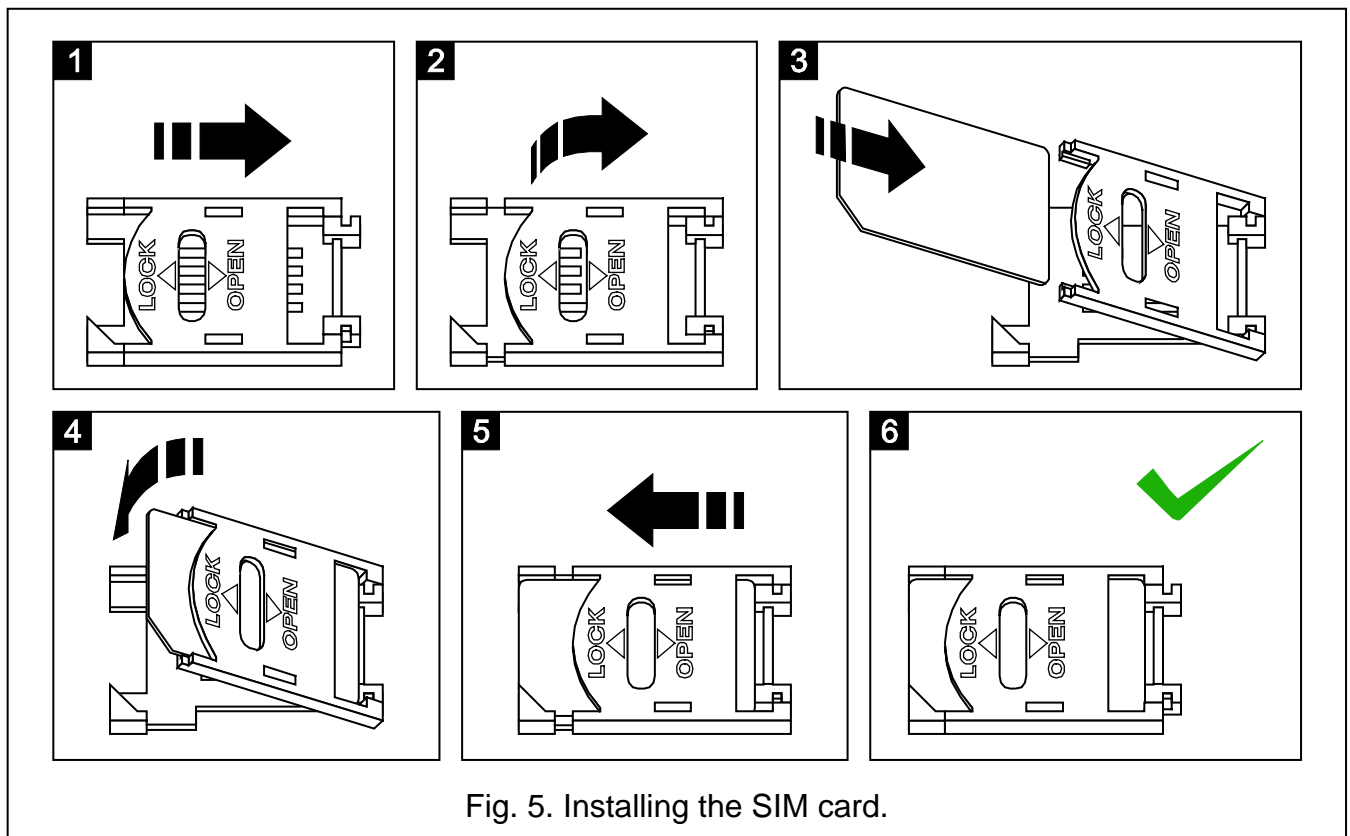

Fig. 5. Installing the SIM card.
10. Insert the SIM card into the socket (see: Fig. 5).